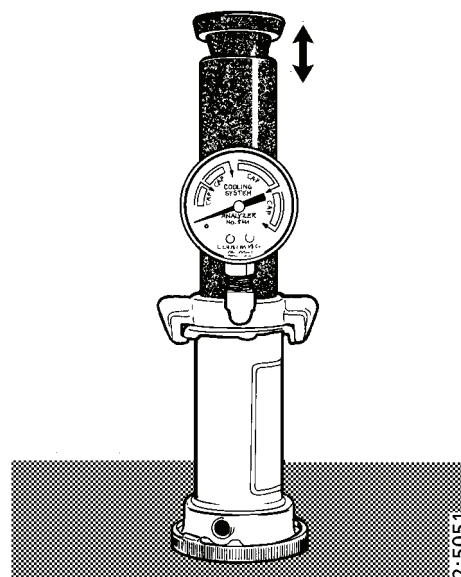

Figure 7-3
2. Pump until the cap opens (**Figure 7-3**).